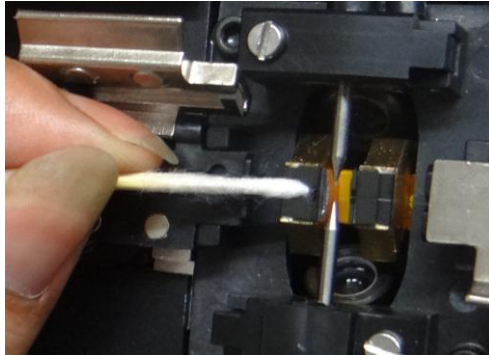

Figure 5.2
2. Use a cotton swab soaked with alcohol to clean the surface and bottom of the V groove. At last, the alcohol should be the natural air-dry or wiped dry by the dry cotton swab. Shown in figure 5.2.